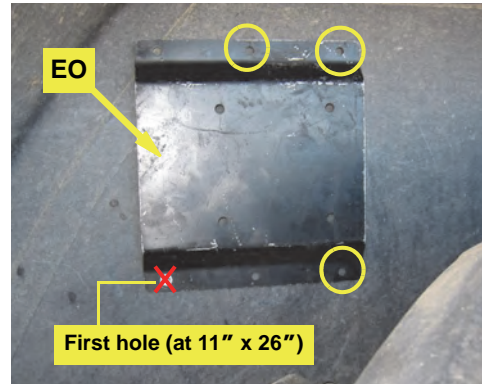

Figure 1d: Using ECU bracket as template
- f. Temporarily hold the bottom left hole of ECU bracket **EO** at the hole you just made (X) and mark and drill three more holes at bottom right, top center and top right of **EO** (Figure 1d).